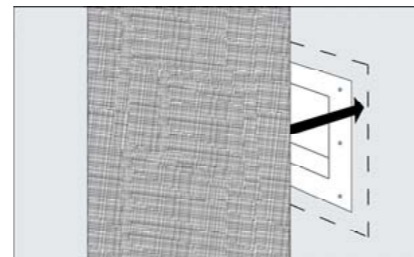

Fig. 4.
STEP 5: Apply Membrane as per Membrane Instructions, including one full drop over installed EasyNiche. (Fig 4).